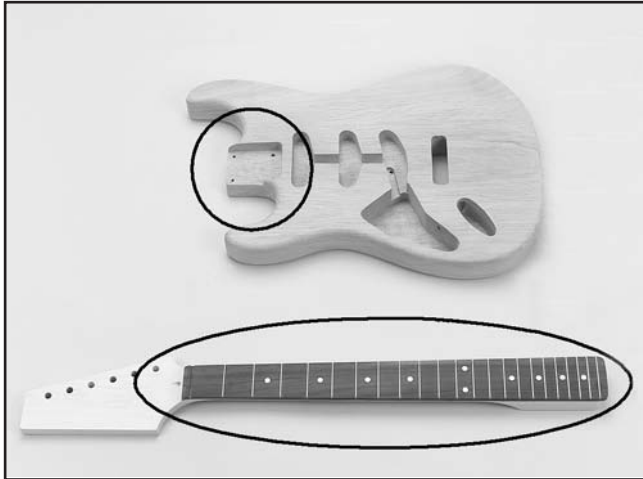

Figure 9. Neck pocket and fingerboard areas.
3. Using the sanding technique described in the previous sub-section, sand the entire guitar neck, EXCEPT for the fingerboard surface (see **Figure 9**, on **Page 6**).
In preparation for the finish coating, the following parts of the guitar (see Figures 9 & 10) need to be covered with masking tape: